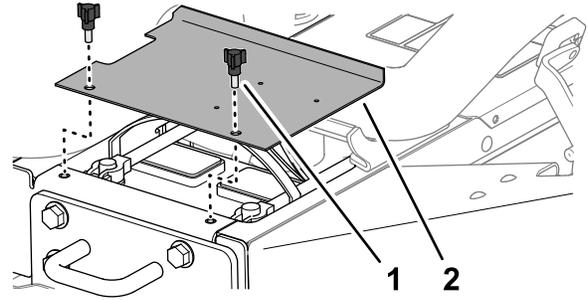

Figure 52
1. Release the latches at the left side and right side of the hood (Figure 52).